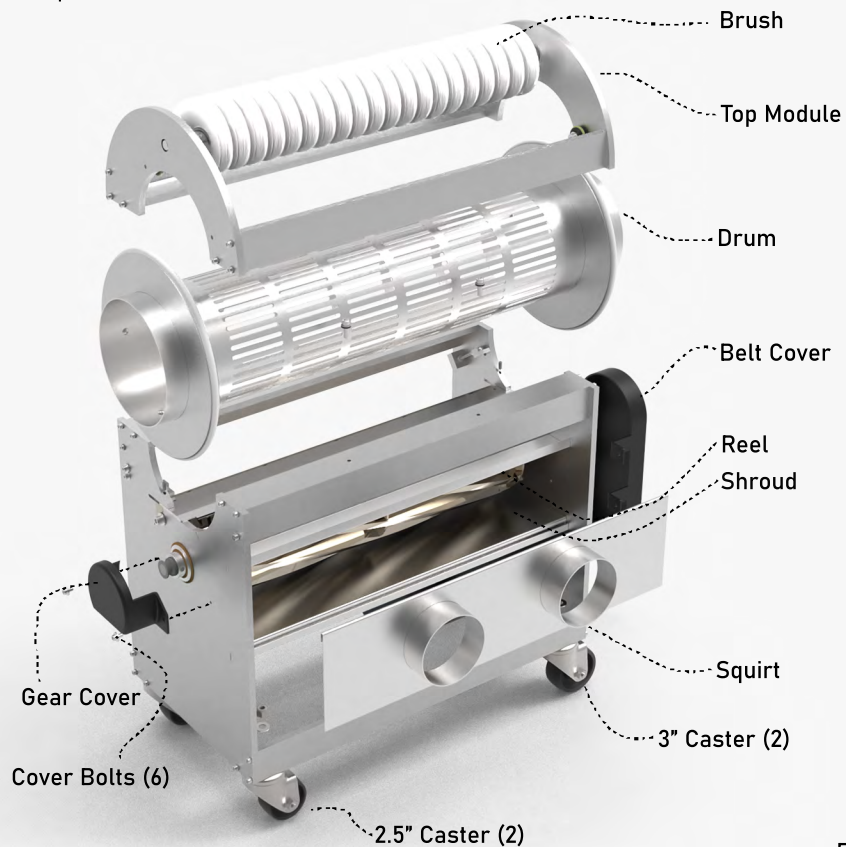

Fig. 1
Note: when installing CASTERS (Fig. 1), ensure that the 2.5" casters go on the OUTFEED SIDE (Fig. 3) and the 3" casters go on the INFEED SIDE.
- 2: With a (**hot water recommended**) **pressure washer** spray down the REEL (Fig. 1), turning it continuously to ensure that every surface has been touched.
- 3: Once the REEL is clean, spray down the inside of the SHROUD (Fig. 1) to remove any additional build-up in the machine.